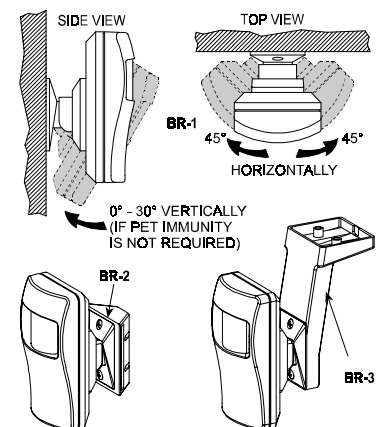

Figure 3. Optional Swivel Brackets
**Optional Mounting Brackets** (See Figure 3)
The **K-940** can be surface mounted on a wall or in a corner. For optional swivel brackets, see Para. 3.2 and Figure 3.
The BR-1 is a swivel, surface-mounted bracket which allows greater flexibility when choosing the direction at which the K-940 is pointed. The BR-1 is adjustable 30° downward and 45° left, 45° right (see Figure 3).